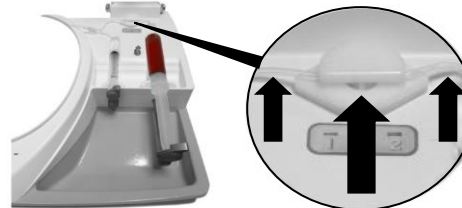

Figure 8. Stretch syringe 2 tubing and slide into pinch valve.
- Gently stretch the tubing attached to syringe 2 and slide it completely into pinch valve opening (see Figure 8).